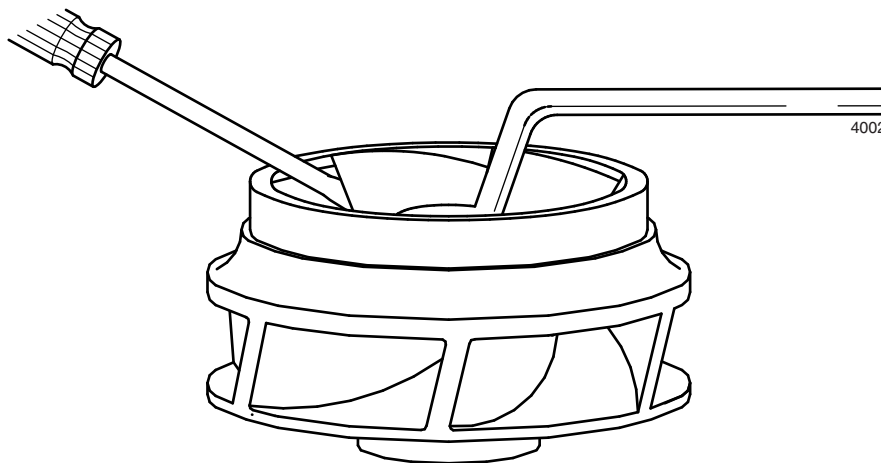

Figure 8: Loosening the impeller nut.
- 2 Block the impeller (0120) against rotating, see figure 8.